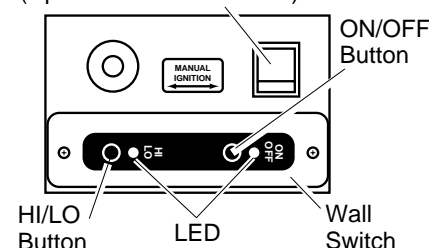

Figure 51 - Control Locations
- Place the magnetic manual override handle, provided with this unit, on the end of the gas valve stem (see Figure 51).